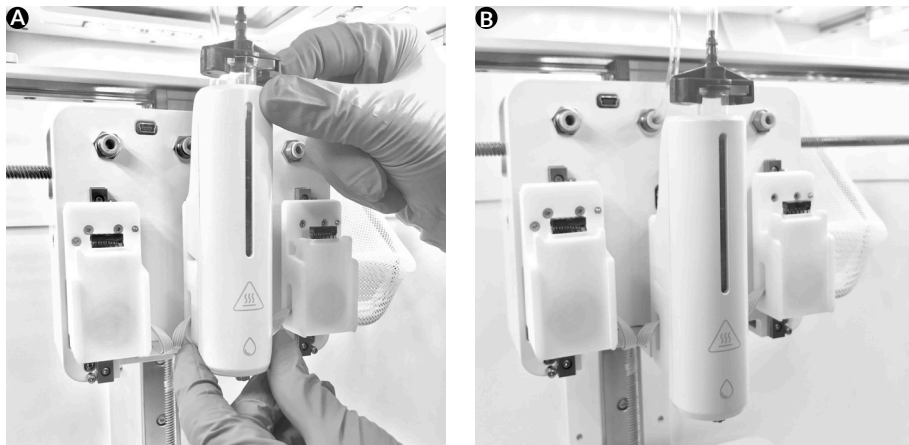

Figure 13: Connect the printhead to the BIO X.
6. Connect the printhead to the BIO X while stabilizing the mount. Follow the instructions in Section 4.2 (Figure 13).